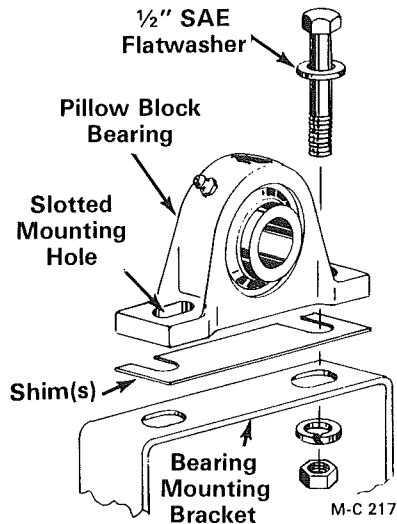

Figure 21
- A. **Pulleys are out of alignment vertically.** Raise or lower the output shaft and bearing as required by adding or removing shims under the bearing, see Figure 21.
- B. **Pulleys are out of alignment horizontally.** Loosen the bearing mounting capscrews and move the output shaft and bearing forward or back as required. The bearing mounting holes are slotted for this purpose, see Figure 21.